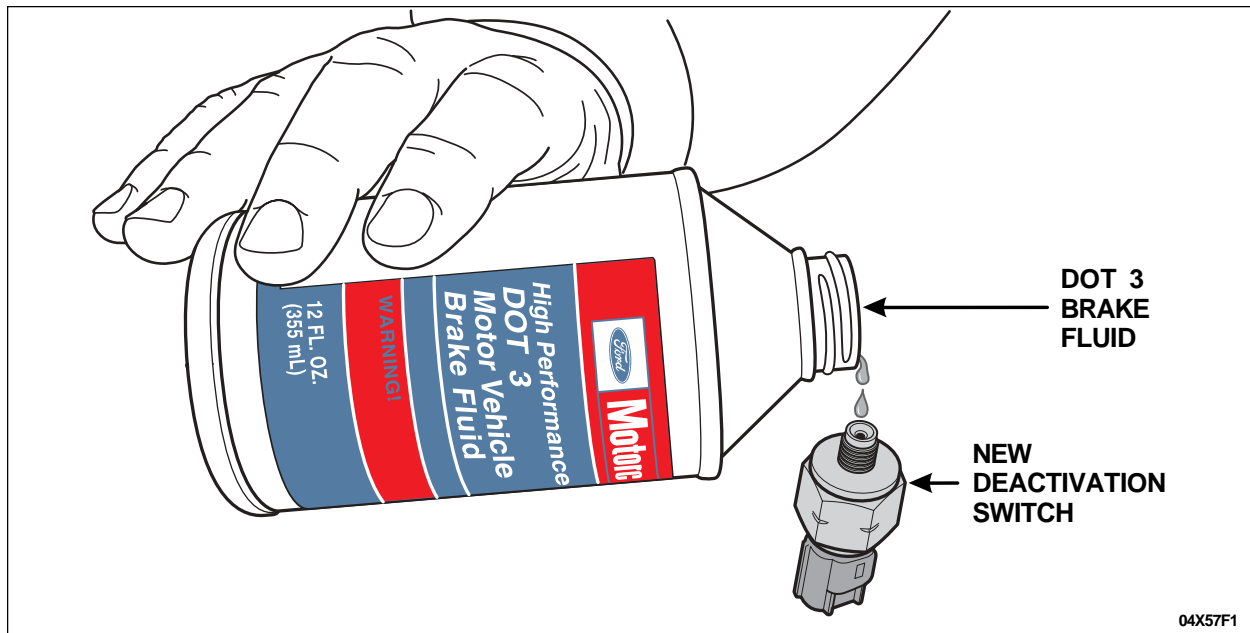

FIGURE 5
2. Add a few drops of Motorcraft High Performance DOT 3 Motor Vehicle Brake Fluid, PM1-1 or PM-1-C (US), CPM-1-C (Canada), to the fluid port at the threaded end of the **new** SCDS. See Figure 5.